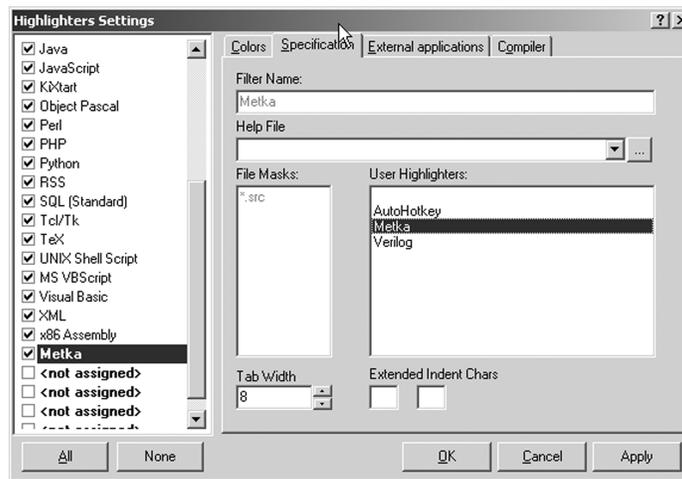

Figure 1. PSPad Highlighter Specification Settings for LP8501
2. Select Specification tab. See Figure 1.
4. On the right side is list of user highlighters, select the METKA highlighter and click on it. See Figure 1